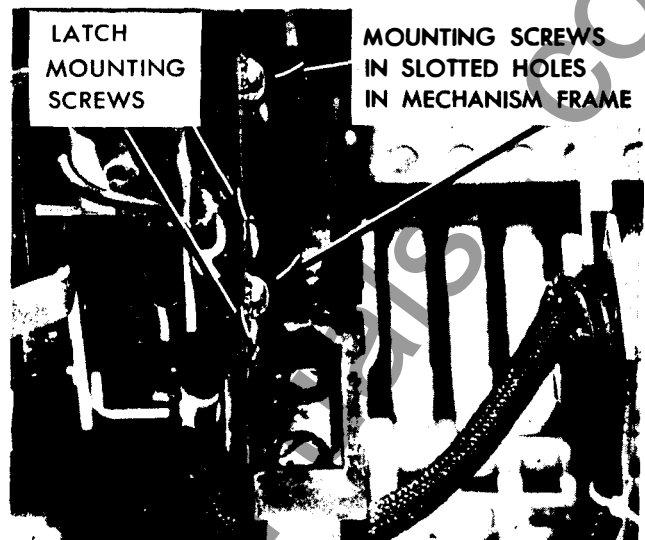

Fig. 5. View of shunt trip and auxiliary switch installation
- b. Discard the plain washer and install the switch assembly, as shown in Fig. 5, using bolt and lockwasher.
- e. Cut one lead to suit, strip and solder to the upper of the two exposed switch terminals (NO).